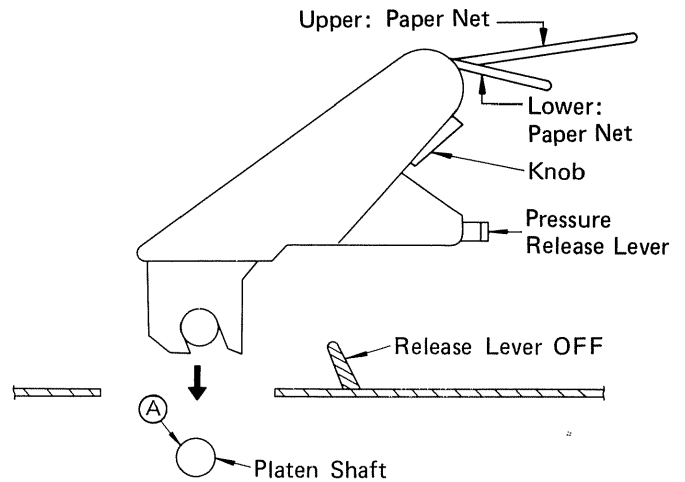
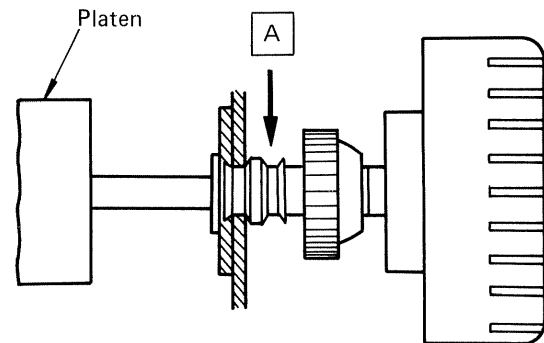

Figure 2
Figure 3
7. Press the Latch Knobs (located on the left and right sides of the Tractor Feed - - see Figure 2) towards the front of the Printer. Gently position the Tractor Feed over the Platen Shaft and release the Knobs. The Tractor Feed will then be attached to the Platen Shaft. (See Figure 3)
9. Be sure the Tractor Feed's Pressure Release Lever fits over the Printer's Paper Release Lever (See Figure 2).